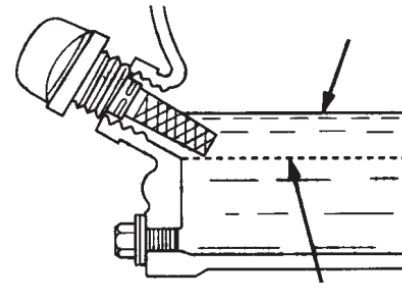

FIGURE 3
7.2.4 If the oil level is low (Figure 3), fill to the edge of the oil filler hole with the recommended with SAE10W-30 4 stroke oil. Maximum oil capacity is 400 cc.